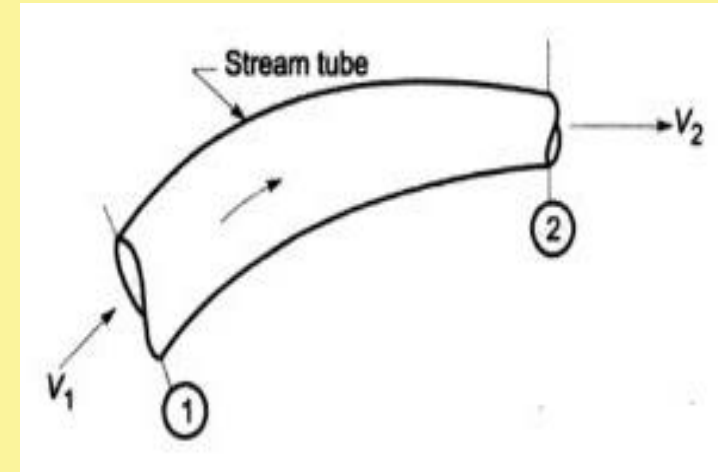

Fig:6
- For incompressible fluid, under steady flow (Fig. 6).